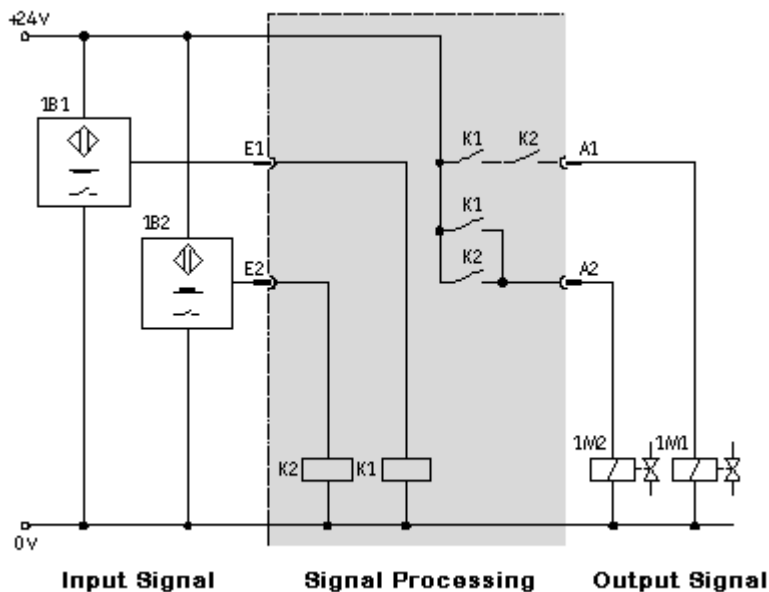

Figure 7.9: Signal control section with relay controller (schematic, circuit diagram not to standards)
The section of an electro pneumatic controller that processes signals encompasses three functional modules. An example of its structure is shown in Figure 7.9.
- Signal input takes place by means of sensors or by means of pushbuttons or control switches. In Figure 7.9, two proximity sensors (1B1/1B2) are used for signal input.
- Signal processing usually takes place using a relay controller or programmable logic controller. There are other forms of signal processing, however these are of much less importance in automation practice. In Figure 7.9, signal processing is carried out by a relay controller (K1/K2).
Functional description of the relay controller in Figure 7.9: